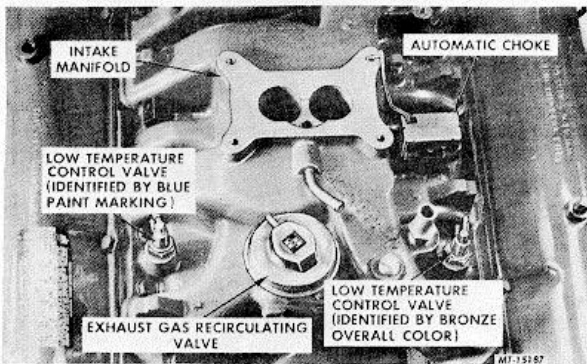

Fig. 19 Removing Low Temperature Vacuum Control Valves, Exhaust Gas Recirculating Valve and Automatic Choke
23. Remove the two low temperature vacuum control valves, exhaust gas recirculating valve and gasket and automatic choke, Fig. 19.